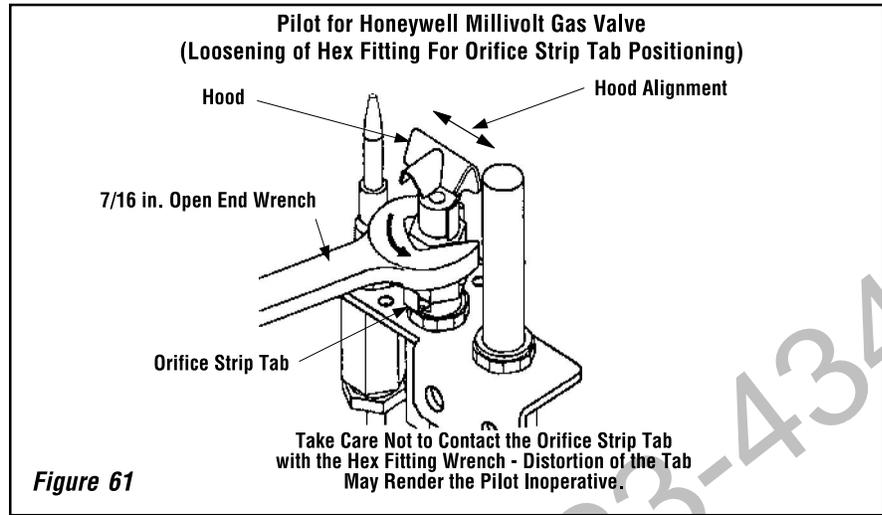

Figure 61
c. Convert the pilot orifice as follows (see **Figures 61, 62 and 63**):
Use a 7/16" open end wrench and turn the pilot hex fitting counter-clockwise 1/4 turn. (See **Figure 61**).
e. Retighten, clockwise, the pilot hex fitting until the pilot hood aligns with the thermocouple and thermopile as indicated by the arrows shown in **Figure 61**.